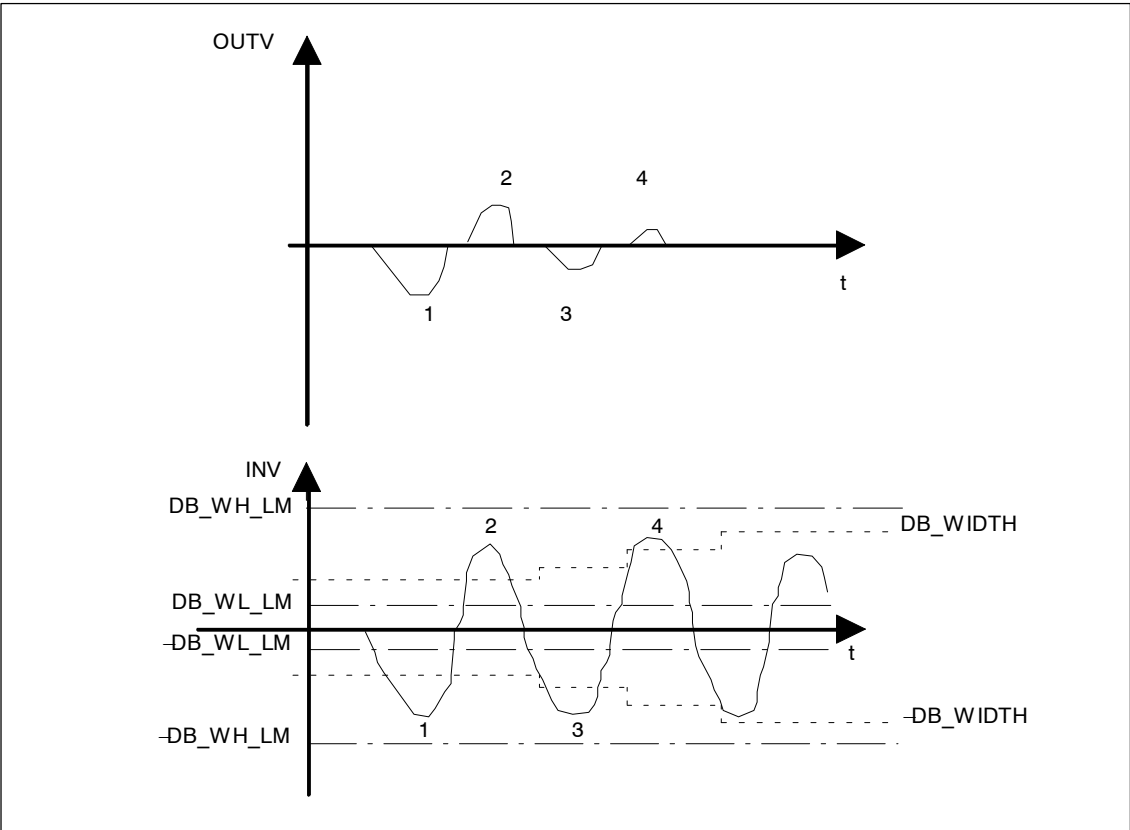

Figure 2-4 Adaptation of the Dead Band
To ensure stability, the effective dead width band `DB_WIDTH` is limited downwards by the selectable input parameter `DB_WL_LM`. If the input signal `INV` affected by noise exceeds the currently set dead band width in the negative (1), positive (2), and then negative (3) direction again within the period $1/\text{CRIT_FRQ}$, the effective band width is increased by the value 0.1. (see also Figure 2-4). This procedure is started whenever the dead band is exceeded in a positive or negative direction. Whenever the dead band is exceeded subsequently (3 → 4), in the opposite direction within half the period, it is once again increased by 0.1. This procedure is repeated until the dead band width matches the amplitude of the measured noise. To prevent input signals of any magnitude being suppressed, the effective dead band width is limited upwards by the input `DB_WH_LM`. If, on the other hand, the dead band width is not exceeded within the time $\text{RET_FAC} \cdot 1/\text{CRIT_FRQ}$, the value is reduced by 0.1.